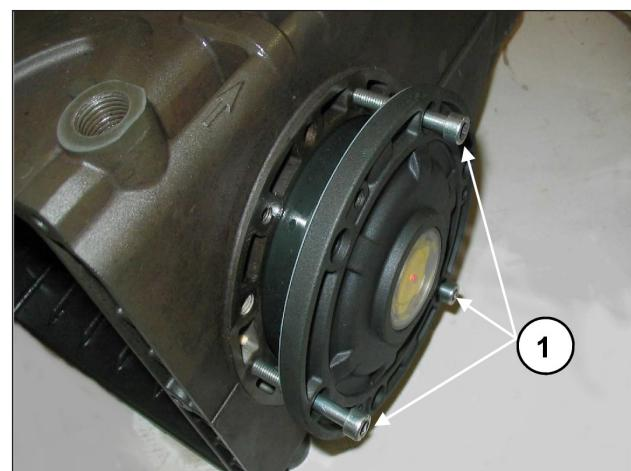
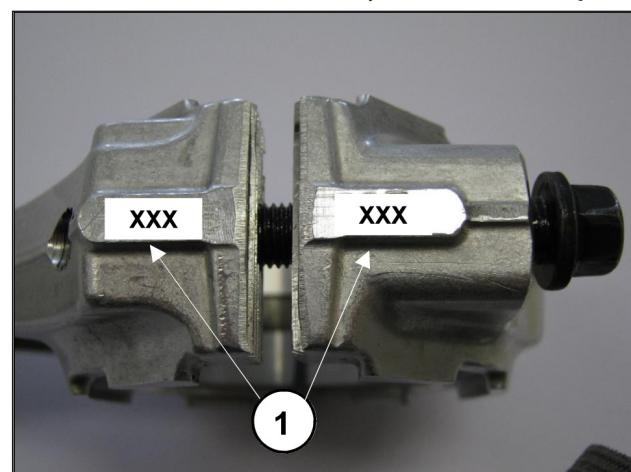

Fig. 8
Fig. 9
To facilitate filling of the first section and relative press fitting of the covers on the casing, we recommend using 3 partially-threaded M6 x 40 screws (Fig. 8, pos. ①), then completing the operation with the screws supplied (M6x18).
- Couple the con-rod caps to their shanks, referring to the numbering (Fig. 9, pos. ①).
To transition the two side covers closer to the casing, it is possible to use 3 M6x40 screws for the first positioning phase as indicated in Fig. 8 and the screws provided for final fastening.
After having removed the side covers as indicated in par. 2.1.1, remove the outer ring nut of the bearings from the relative covers and the inner ring nut with the remaining part of the bearing from the two ends of the shaft by means of a normal "pin punch" or a similar tool as indicated in Fig. 8 and Fig. 9.